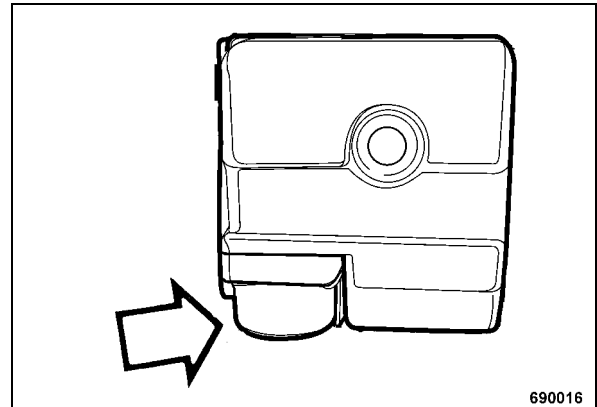

Fig. 44
- Check the pre-filter in the housing cover for dirt or blockage, clean if necessary (Fig. 44).